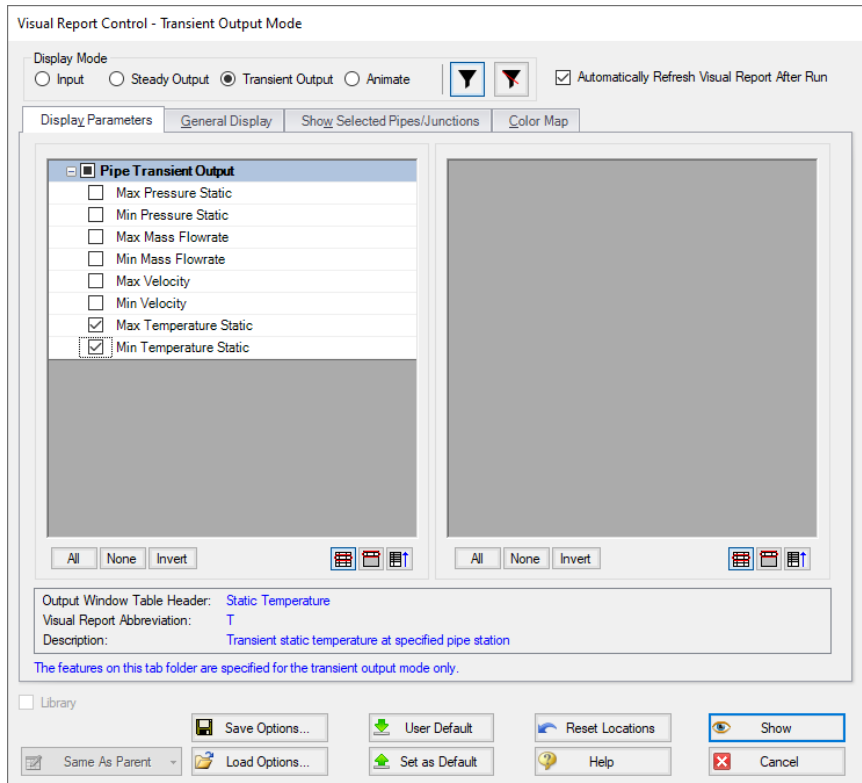

Figure 2.32 The Visual Report Control window selects content for the Visual Report window
- **Select "Max Temperature Static" and "Min Temperature Static" in the Pipe Transient Output area of the Visual Report Window as shown in Figure 2.32. Click the Show button. This will generate the Visual Report window graphic seen in Figure 2.33.**